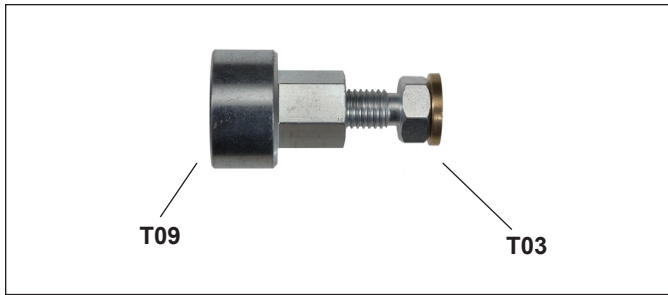

Figure 54 – On-Vehicle Inner Seal Tool (L1)
4.5.12 Position the replacement inner seal (22) over the threaded tube (16). See Figures 52 and 53 for the tools and installation arrangement used. Position the L1 (T03 + T09) with the short spacer (T03) in position as shown in Figure 54. Guide the tool over the end of the threaded tube (16). Install the new inner seal (22) into position by rotating the adjuster nut on the T03 portion of the tool, using an open-ended wrench.